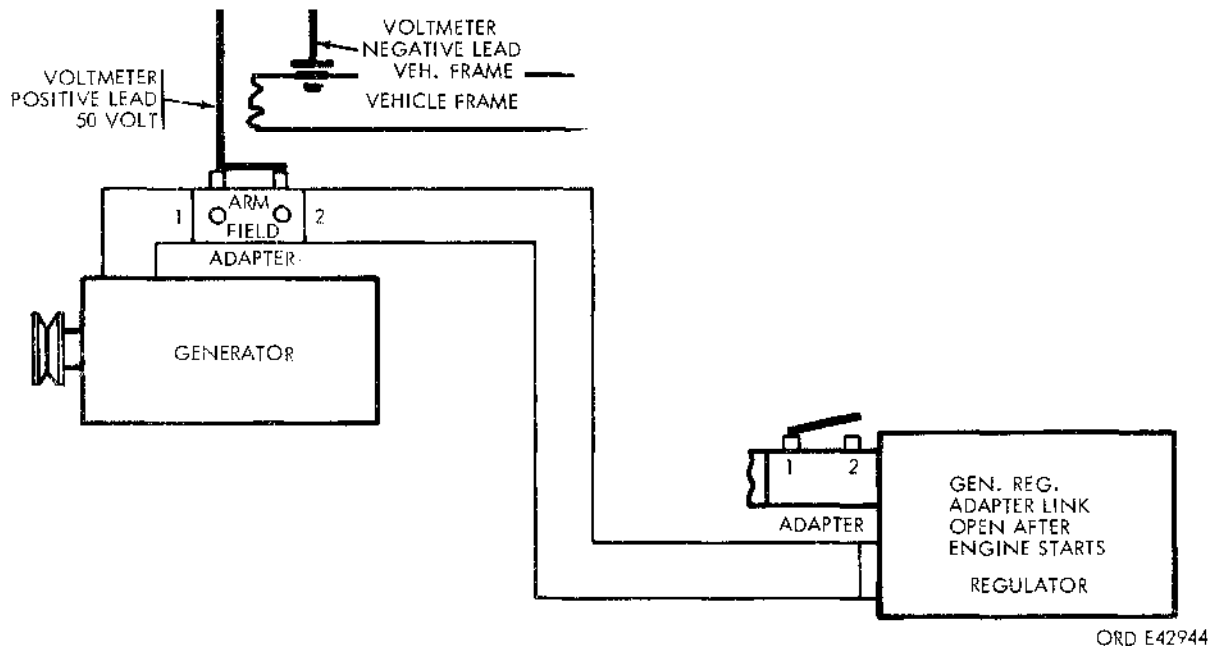

Figure 2-20. Regulator voltage control test hookup.
Prior to making the following regulator tests, the generator must be completely tested as in paragraph 2-24. The same adapters used in generator testing are required to test the regulator. The radio ground strap must be connected to insure the grounding of the regulator (fig. 2-20).
a. *Voltage Control Test (Fig. 2-20).*
(1) Select the 50-volt scale and turn the LOAD BANK SWITCH to OFF. The load bank control knob must be in the fully counterclockwise position.
(2) With the engine stopped, connect the meter to the adapters as shown in figure 2-18. Check to insure that cables are properly connected and not touching vehicle metal (fig. 2-20).
(3) With all adapter links closed, start the engine and observe the voltmeter reading. This should be 27.5 to 29 volts with the engine running at 1000 to 1200 rpm.
(4) Open the adapter link on the regulator and check the voltage on open circuit. With the engine at 1000 to 1200 rpm, the voltage should be 27.5 to 29 volts (fig. 2-20).
(5) If the voltmeter shows less than 27.5 volts, check the wiring between the generator and the